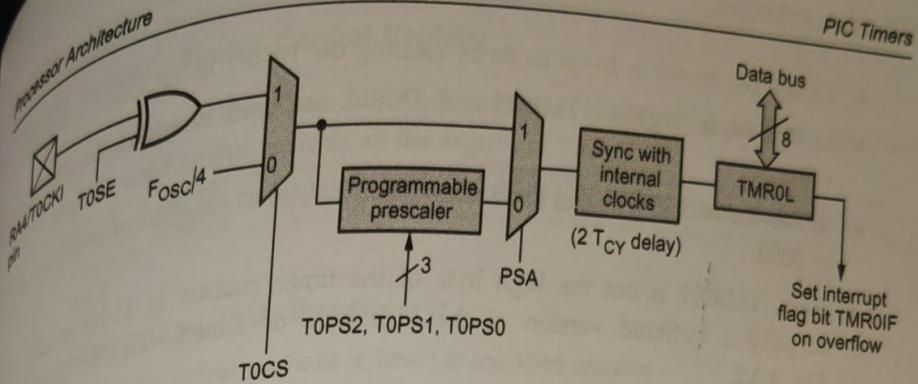

Fig. 4.3.2 Simplified block diagram of Timer 0 in 8-bit mode
- Fig. 4.3.2 shows the simplified block diagram of Timer 0 in 8-bit mode.
- Here, TMR0H is not the high byte of the timer/counter in 16-bit mode, but is actually a buffered version of the high byte of Timer0. This is illustrated in Fig. 4.3.2.